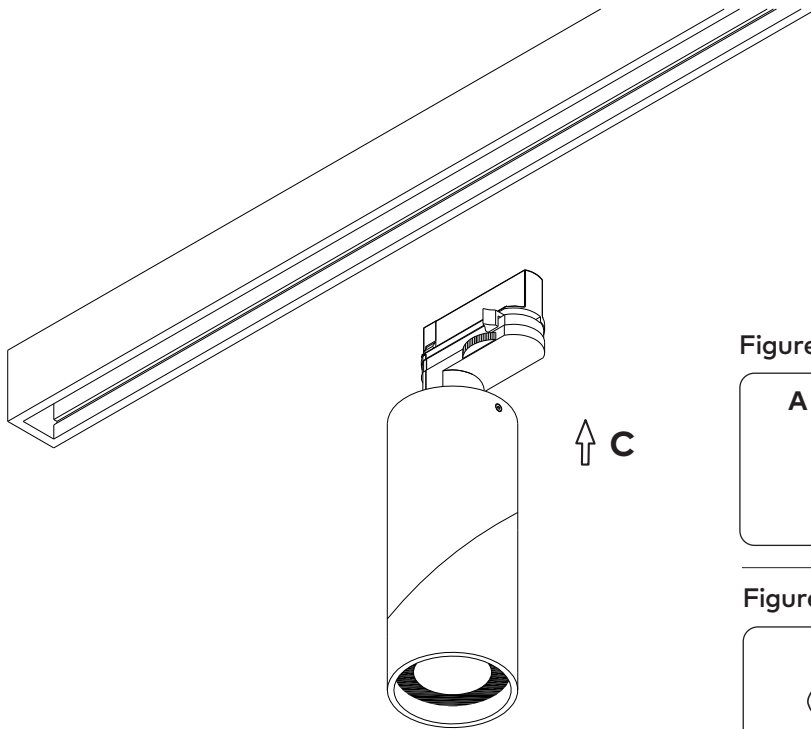

Figure 1: Single Circuit
- A** For Single Circuit installation, follow the steps in Figure 1: